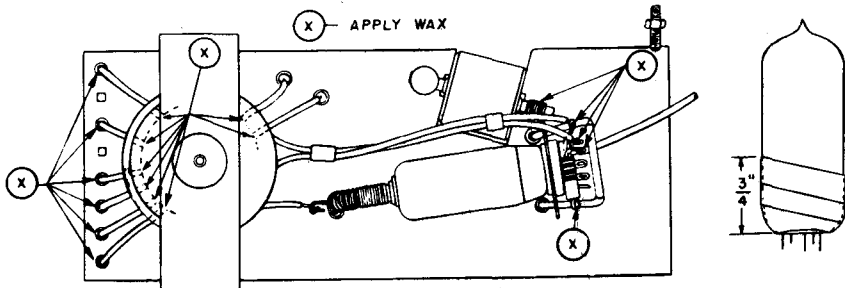

Fig. 33 — Crosley
**Preventing corona and arcing on high-voltage assembly (see Fig. 33).**